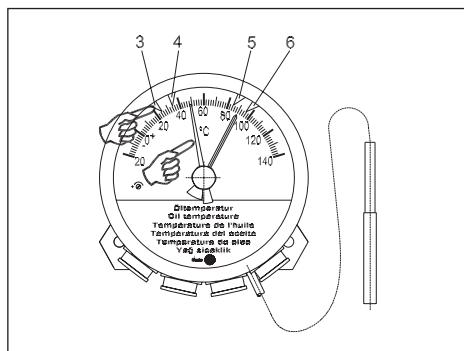

Fig. 4
4.2 Checking and adjusting the microswitches (Fig. 4)
To check the microswitches which are located to the right of the pointer, turn the pointer clockwise by hand past the microswitches and back. A return spring pulls the pointer back to its original position (Fig. 4).